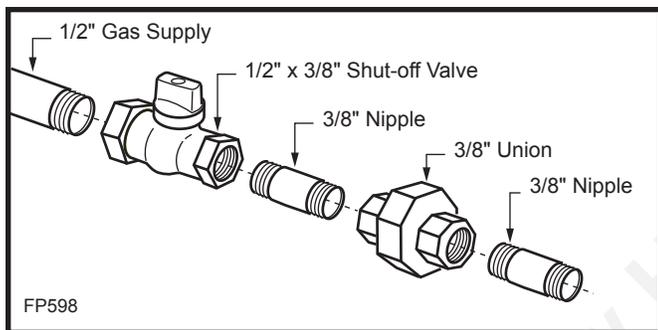

Fig. 5 Typical gas supply installation.
**NOTE:** If flex connector is used, it must be kept inside of the appliance. (Fig. 5)